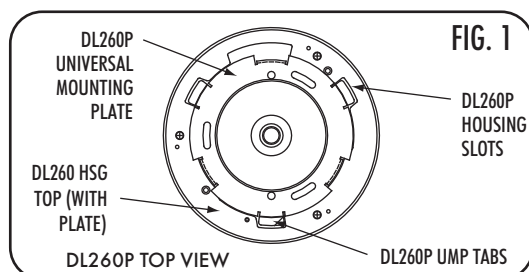

FIG. 1
2. As needed turn DL260 UMP counter clockwise in DL260P fixture. When UMP is in the position in the DL260P (FIG 1) remove (UMP) from housing top (FIG 1).
6. Align the 3 slots in the DL260P housing top with the 3 tabs in the UMP (FIG 1). Place fixture housing on ceiling and turn housing clockwise to secure housing tabs underneath housing top.